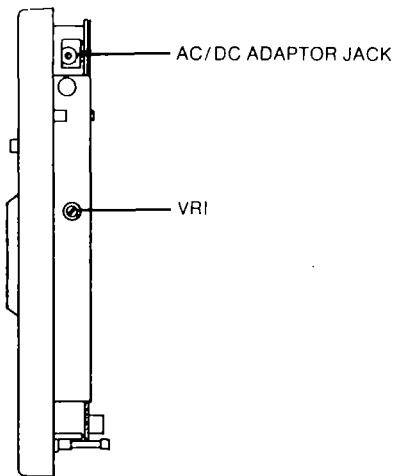

Figure 2. Right-hand Side View of Meter
8. Adjust VR1 (Figure 2) for a display equal to the known capacitance.